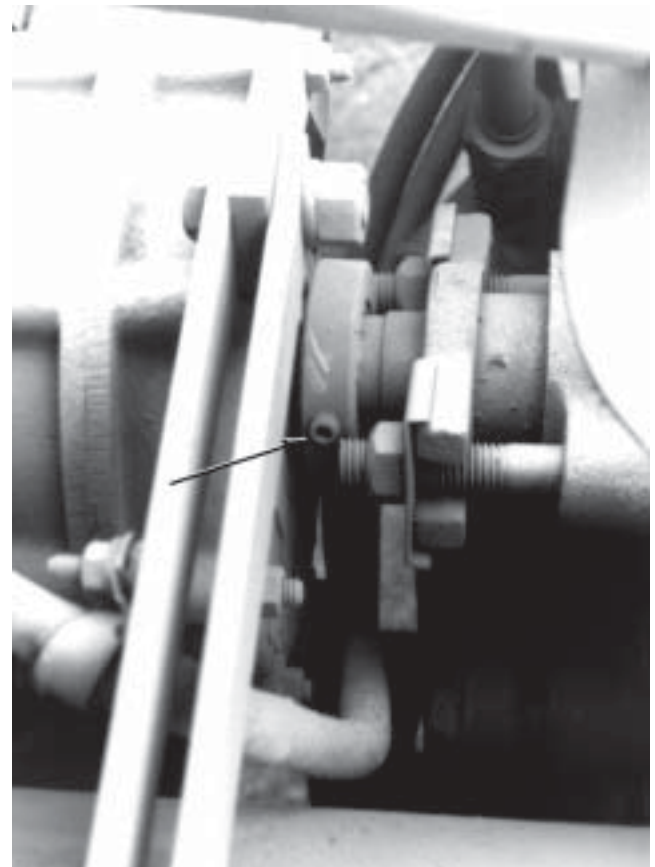

Figure 7. Asphalt Drive Transmission Collar.
- The two set screws on the asphalt drive transmission collar (Fig. 7).